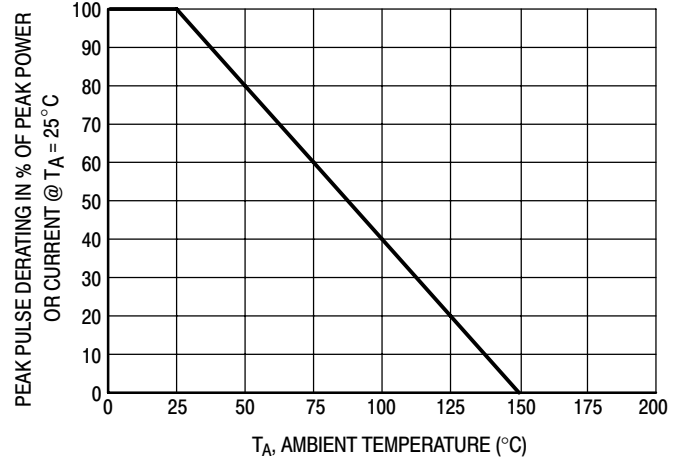
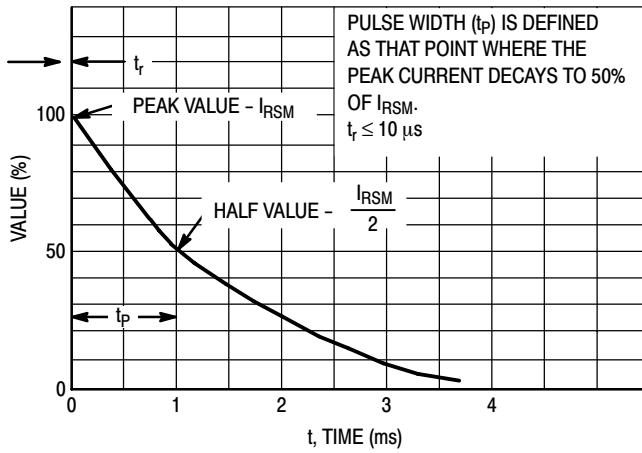
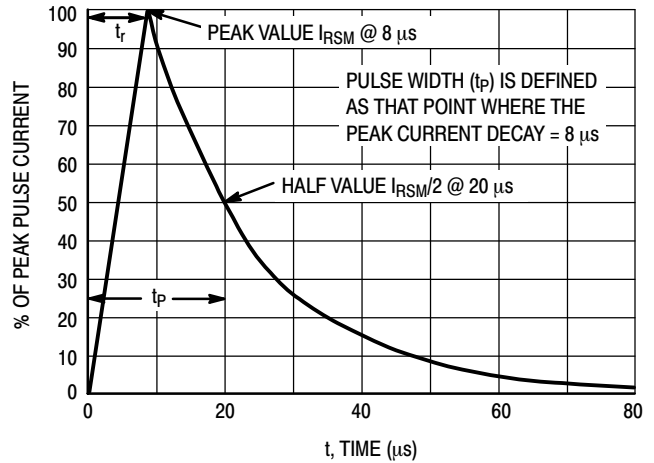

Figure 4. Pulse Derating Curve
Figure 5. 10 × 1000 µs Pulse Waveform
Figure 6. 8 × 20 µs Pulse Waveform
- Peak Power - Min. 24 W @ 1.0 ms (Unidirectional), per Figure 5 Waveform
- Peak Power - Min. 150 W @ 20  $\mu$ s (Unidirectional), per Figure 6 Waveform
1. Non-repetitive current pulse per Figure 5 and derate above  $T_A = 25^\circ\text{C}$  per Figure 4.
2. Non-repetitive current pulse per Figure 6 and derate above  $T_A = 25^\circ\text{C}$  per Figure 4.
6. Surge current waveform per Figure 5 and derate per Figure 4.